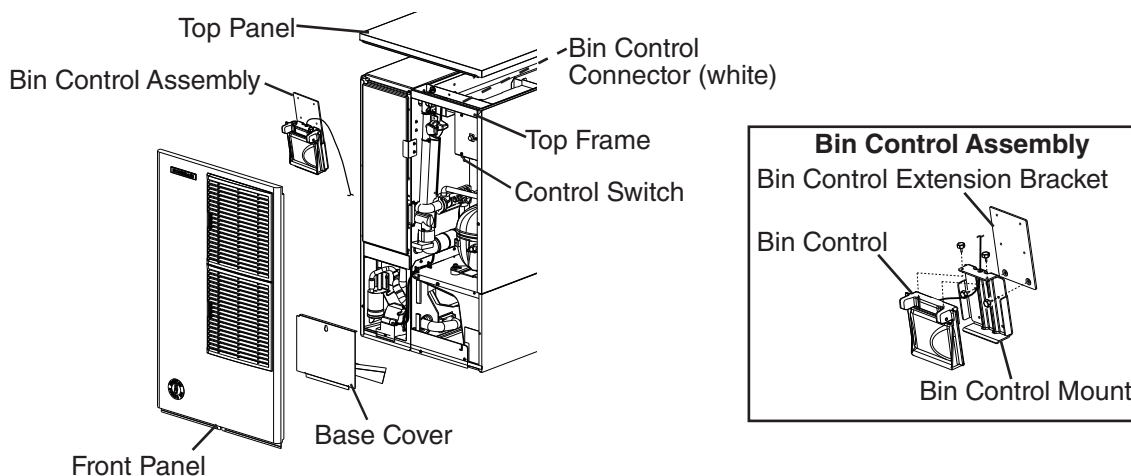

Fig. 3
- 1) If not already removed, remove the front panel, top panel, and the base cover. See Fig. 3.
- 5) Route the bin control cable across the outside of the frame to the pump motor wire harness. Route the bin control cable along the pump motor wire harness and into the top frame. Connect the bin control cable to the bin control connector (white). See Fig. 3.